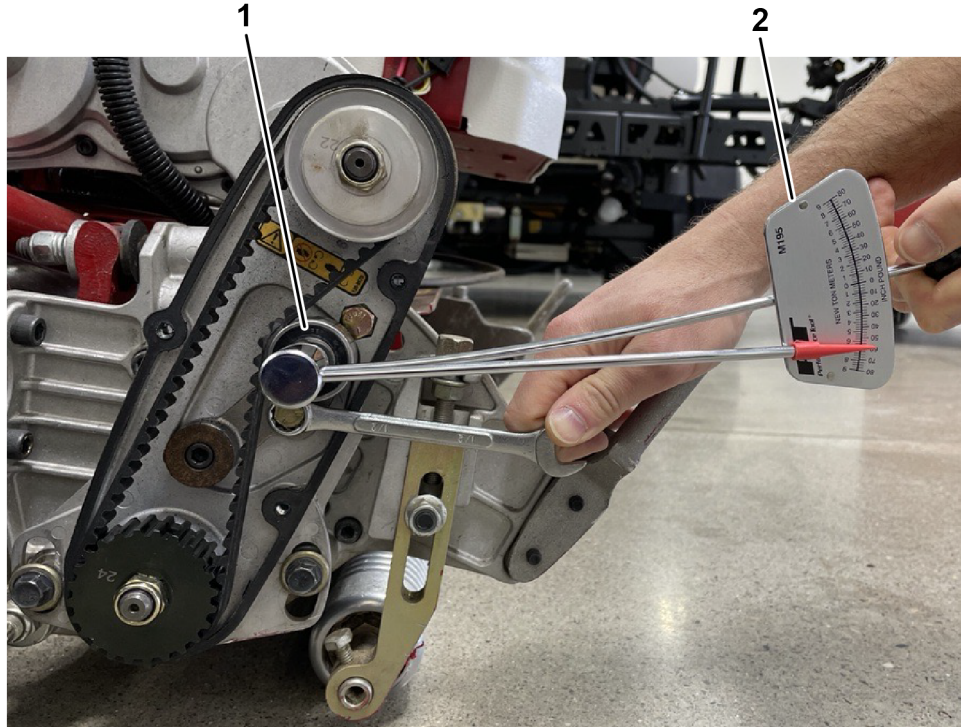

Figure 13
- A. Loosen the bolt (4) and rotate the idler arm (3) to remove tension from the belt (2).
- B. Use a beam-style torque wrench to apply **6 to 7 N·m (55 to 60 in-lb)** of force to the upper idler-arm socket-head screw as shown in Figure 13, and tighten the bolt (4) to secure the idler arm (3). Check the belt tension; refer to step 4.